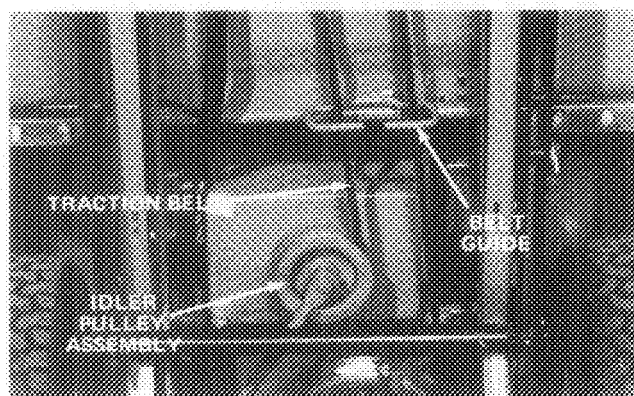

Figure 32
3. Reach under the tractor frame just forward of the rear wheels, grasp the idler pulley assembly, (Fig. 32) pull on it to relieve tension on the belt and remove the belt from the belt guide and idler pulley (Fig. 32).